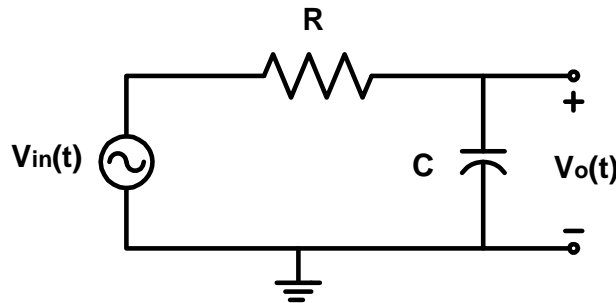

Fig. 2. First order lowpass filter (integrator)
1. For the circuit shown in Fig. 2, derive the transfer function for  $v_o/v_{in}$  in terms of  $R$ , and  $C$ , and find the expressions for the magnitude and phase responses. Express your results in the form
- Build the circuit shown in Fig. 2 with the values of  $R$  and  $C$  you choose in the pre lab. Apply a 6Vpp sinusoidal signal from the function generator to the input, using the high Z option on your signal source (ask you TA for assistance).